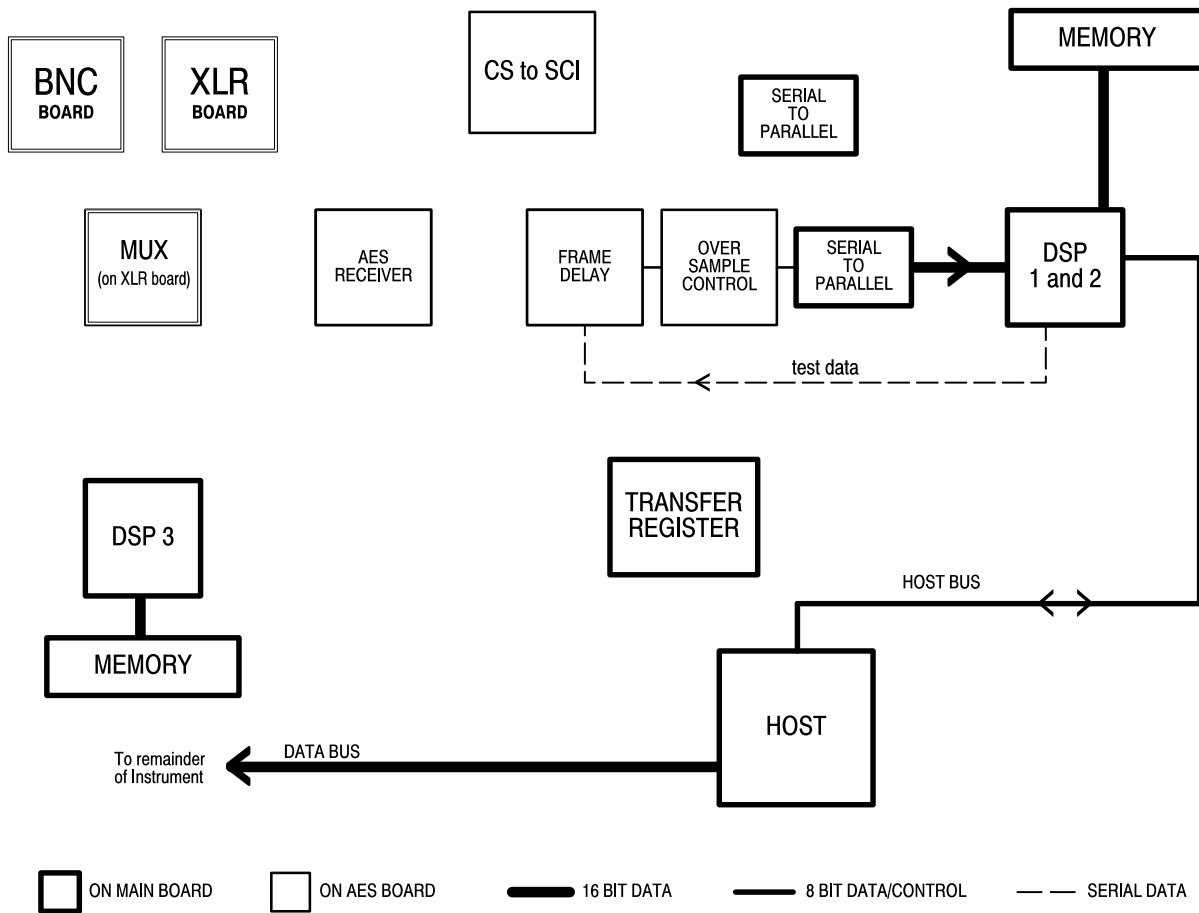

Figure 5-5: The oversampler test
- Oversampler tests, DSP1 Oversampler and DSP2 Oversampler, Figure 5-5.